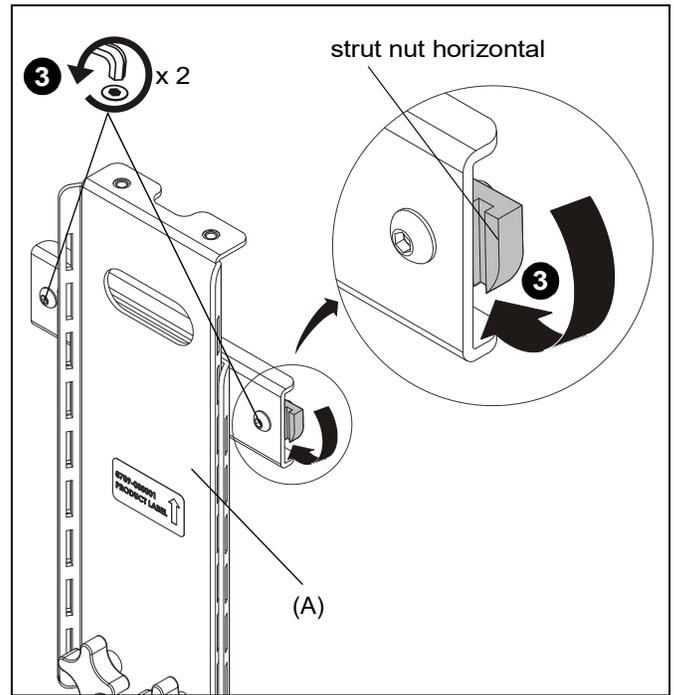

Figure 3
3. Loosen two strut nuts on back of height-adjustable bracket (A) and rotate until they are in a horizontal position. (See Figure 3)